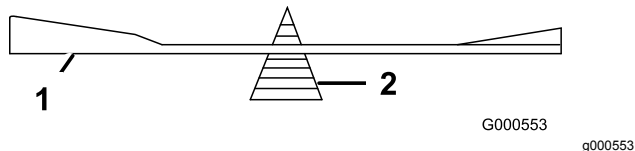

Figure 102
2. Check the balance of the blade by putting it on a blade balancer (Figure 102).
Note: If the blade is not balanced, file some metal off the end of the sail area only (Figure 102).